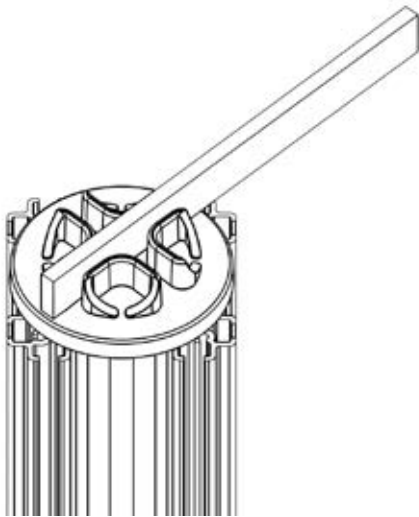

Fig. 11
- ▶ Close and tighten properly, use spanner, prying bar or tool, but do not over tighten! (Fig 11)